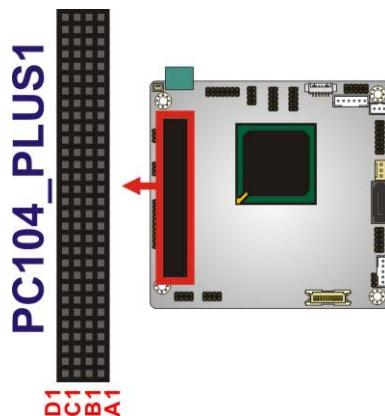

Figure 3-13: PCI-104 Connector Location
**CN Location:** See **Figure 3-13**